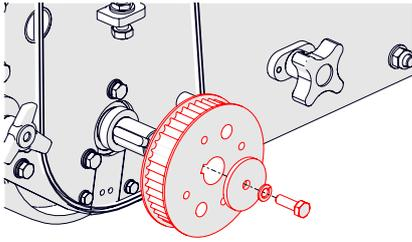

Fig. 20F - Remove roller pulley.
9. Remove the hex screw [13 mm spanner] and washers of the pulley, then remove pulley (Fig.20F).